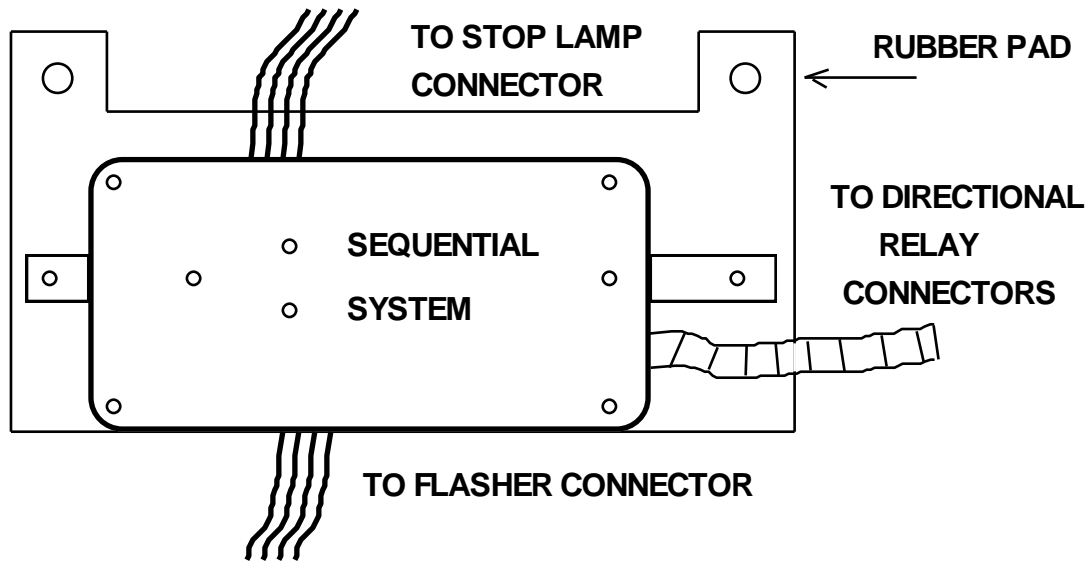
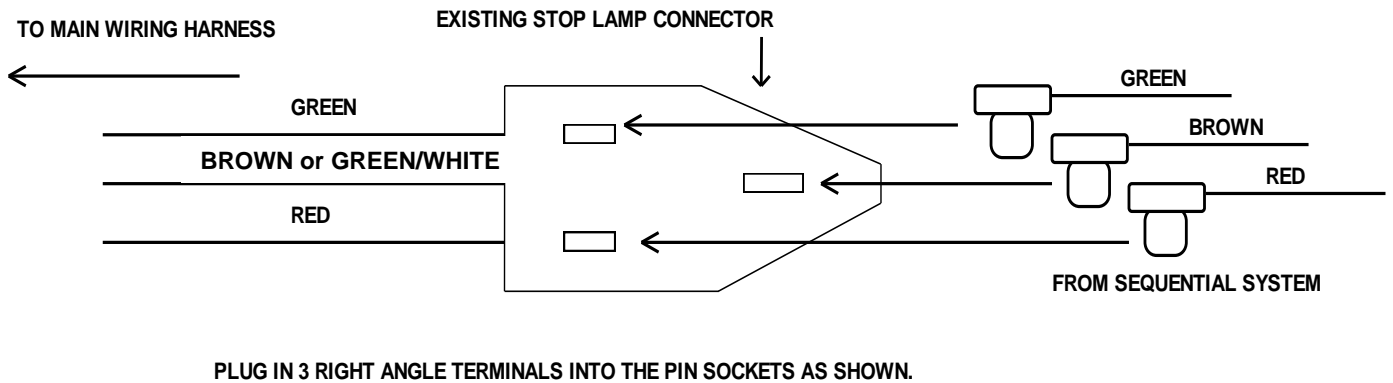

Figure 3. Electronic Sequencer Mounting
Figure 4. Stop lamp wire connections - 1965 and early 1966
3. Mount the unit to the rubber pad using the original hardware as shown in Figure 3. Plug in the sequential system connectors into the wiring harness. Plug in the 2-pin brown jumper wire into its matching connector on the car wiring harness. On the 1965 and early 1966 cars, plug in the stop lamp wires as shown in Figure 4. Also bolt the black lug to ground. Remount the rubber pad on the car.